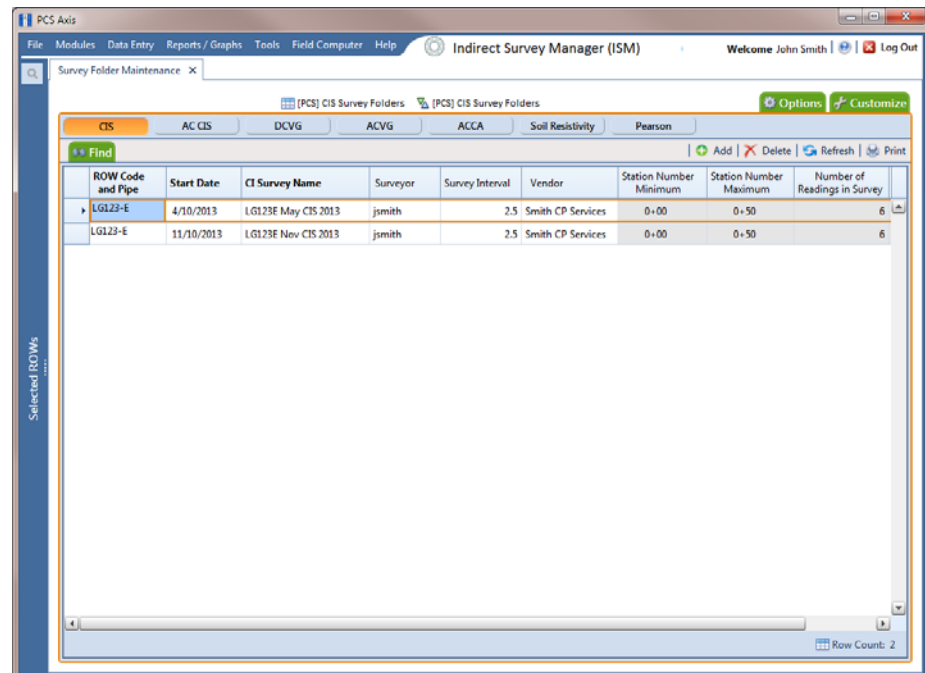

Figure 6-4. Survey Folder Maintenance
- 3 Click **Data Entry > Survey Folder Maintenance** to open the *Survey Folder Maintenance* window (Figure 6-4).
- 4 Click a button labeled with the type of continuous survey that you want to add a survey folder. For example, clicking the **CIS** button adds a survey folder for close interval survey readings (Figure 6-4).